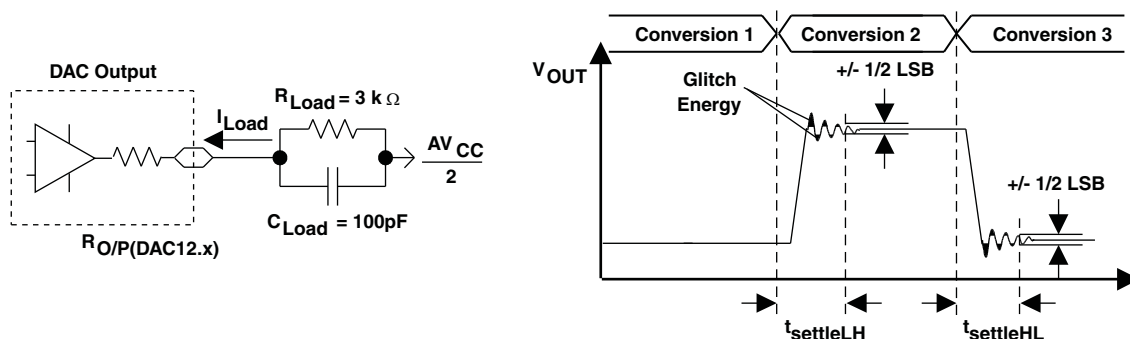

Figure 48. Settling Time and Glitch Energy Testing
(1) R_{LOAD} and C_{LOAD} are connected to AV_{SS} (not $AV_{CC}/2$) in Figure 48.
(2) Slew rate applies to output voltage steps ≥ 200 mV.